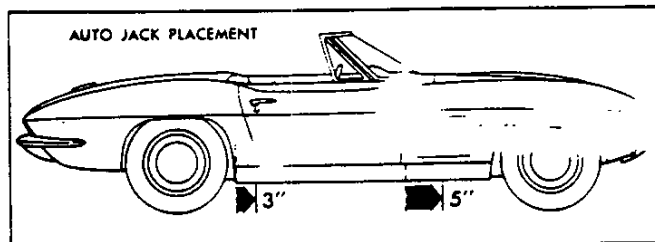

Fig. 5—Jacking Points
4. Place jack as shown in Figures 5 and 6.